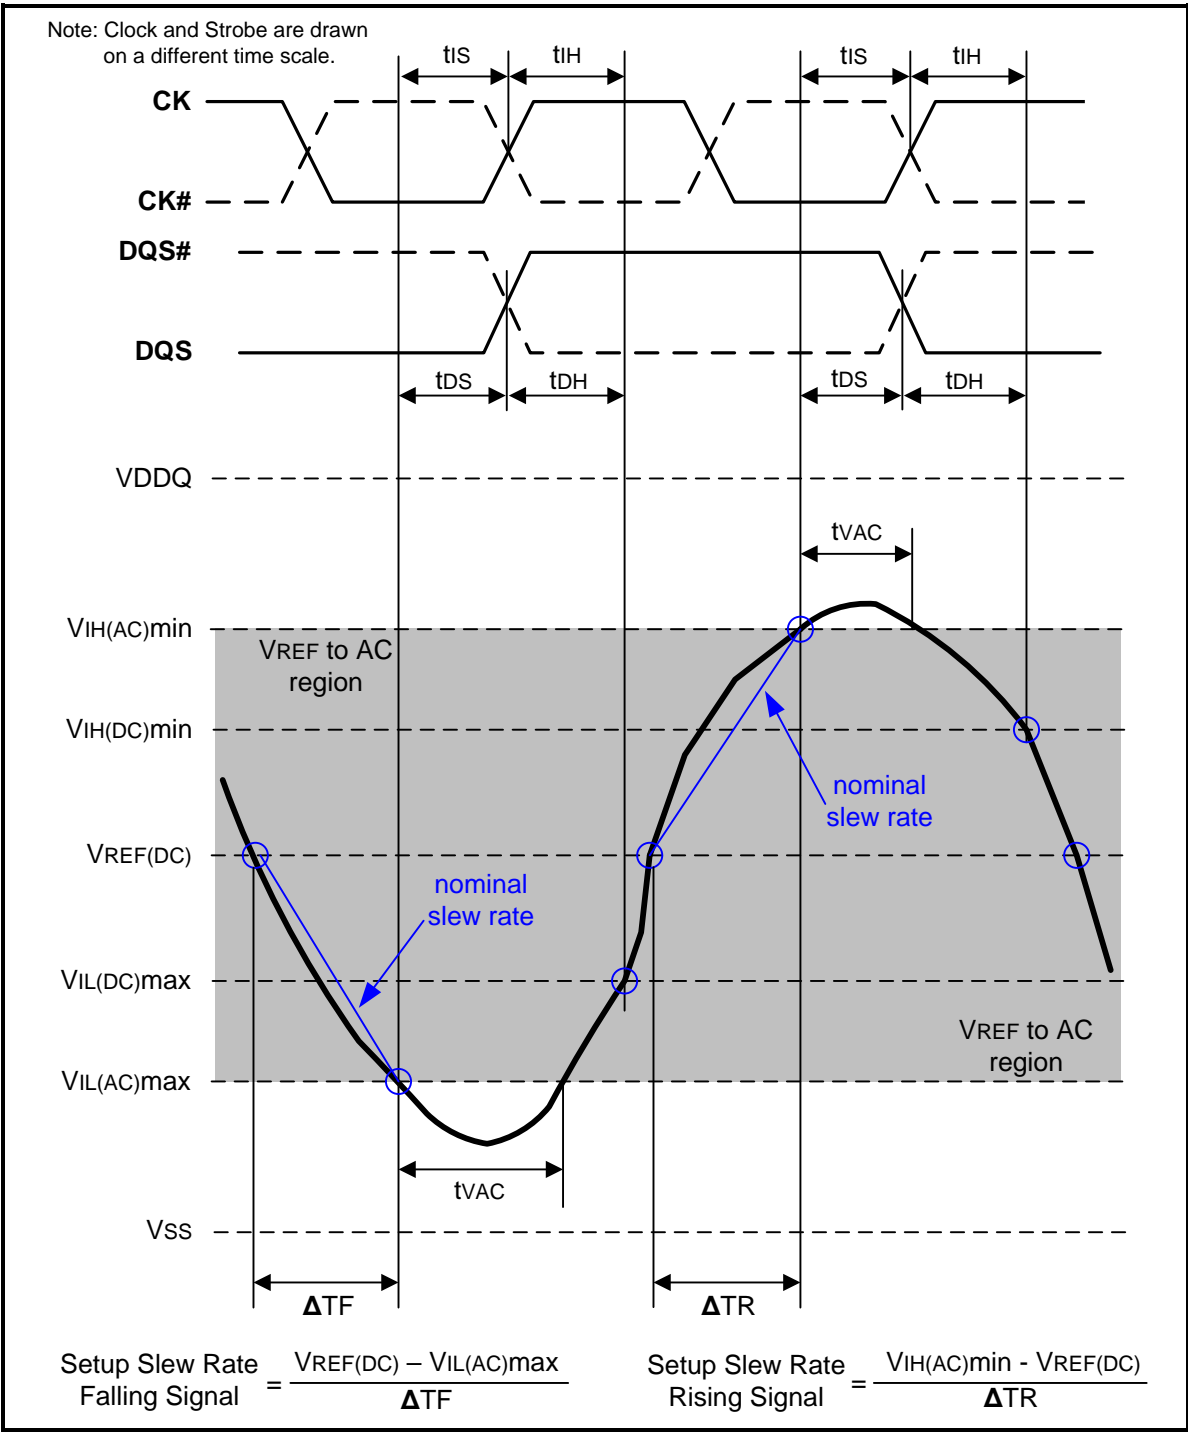

Figure 107 – Illustration of nominal slew rate and tvac for setup time tds (for DQ with respect to strobe) and tis (for ADD/CMD with respect to clock)
Setup ( $t_{IS}$ ) nominal slew rate for a rising signal is defined as the slew rate between the last crossing of  $V_{REF(DC)}$  and the first crossing of  $V_{IH(AC)min}$ . Setup ( $t_{IS}$ ) nominal slew rate for a falling signal is defined as the slew rate between the last crossing of  $V_{REF(DC)}$  and the first crossing of  $V_{IL(AC)max}$ . If the actual signal is always earlier than the nominal slew rate line between shaded 'VREF(DC) to AC region', use nominal slew rate for derating value (see Figure 107). If the actual signal is later than the nominal slew rate line anywhere between shaded 'VREF(DC) to AC region', the slew rate of a tangent line to the actual signal from the AC level to  $V_{REF(DC)}$  level is used for derating value (see Figure 109).
Setup (tDS) nominal slew rate for a rising signal is defined as the slew rate between the last crossing of VREF(DC) and the first crossing of VIH(AC)min. Setup (tDS) nominal slew rate for a falling signal is defined as the slew rate between the last crossing of VREF(DC) and the first crossing of VIL(AC)max (see Figure 107). If the actual signal is always earlier than the nominal slew rate line between shaded 'VREF(DC) to AC region', use nominal slew rate for derating value. If the actual signal is later than the nominal slew rate line anywhere between shaded 'VREF(DC) to AC region', the slew rate of a tangent line to the actual signal from the AC level to VREF(DC) level is used for derating value (see Figure 109).